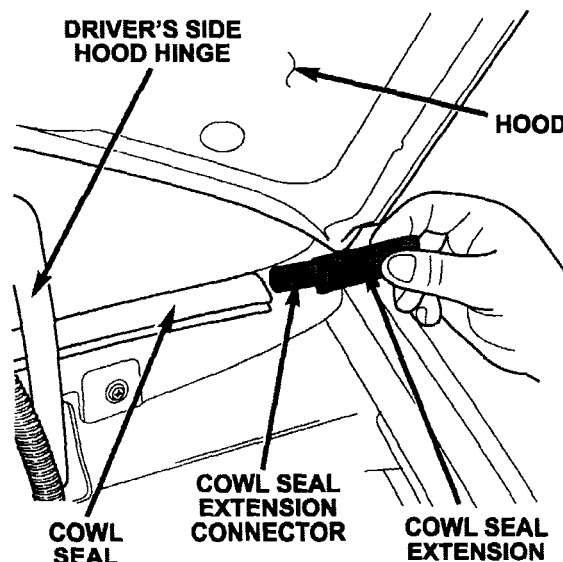

Figure 2
4. Insert the cowl seal connector half way into the cowl seal extension (Figure 2).
6. Install the cowl seal extension connector into the original cowl seal end and firmly press the seal against the plastic cowl panel (Figure 2).